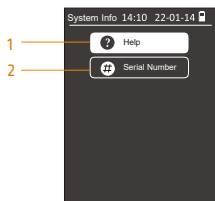

fig.25
g. The System Info interface displays 2 options below (fig.25).